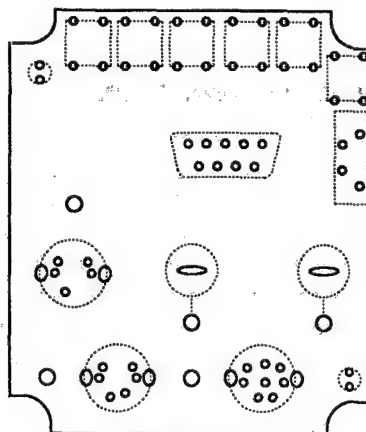

Fig. 1-3-4
2. Unsolder the connector at the points shown in Fig. 1-3-4.